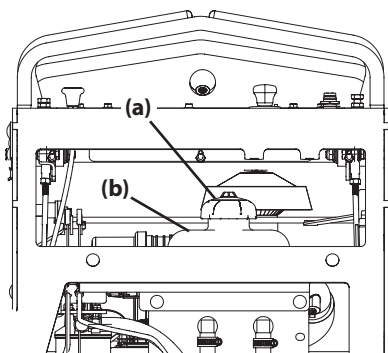

Figure 23
5. Remove the hydrostatic transmission oil reservoir cap (a) and insert a funnel into the reservoir (b). See Figure 23.